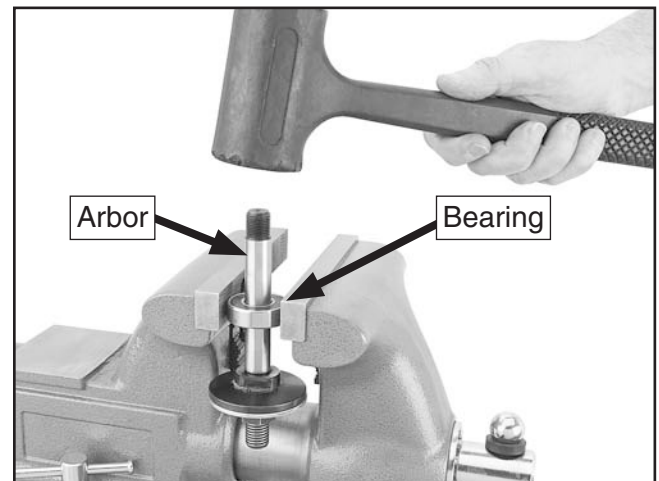

Figure 139. Removing arbor bearing.
18. Place the arbor in a vise, as shown in **Figure 139**, with the vise teeth clamping the bearing, then use a soft rubber hammer to force the arbor out of the bearing.